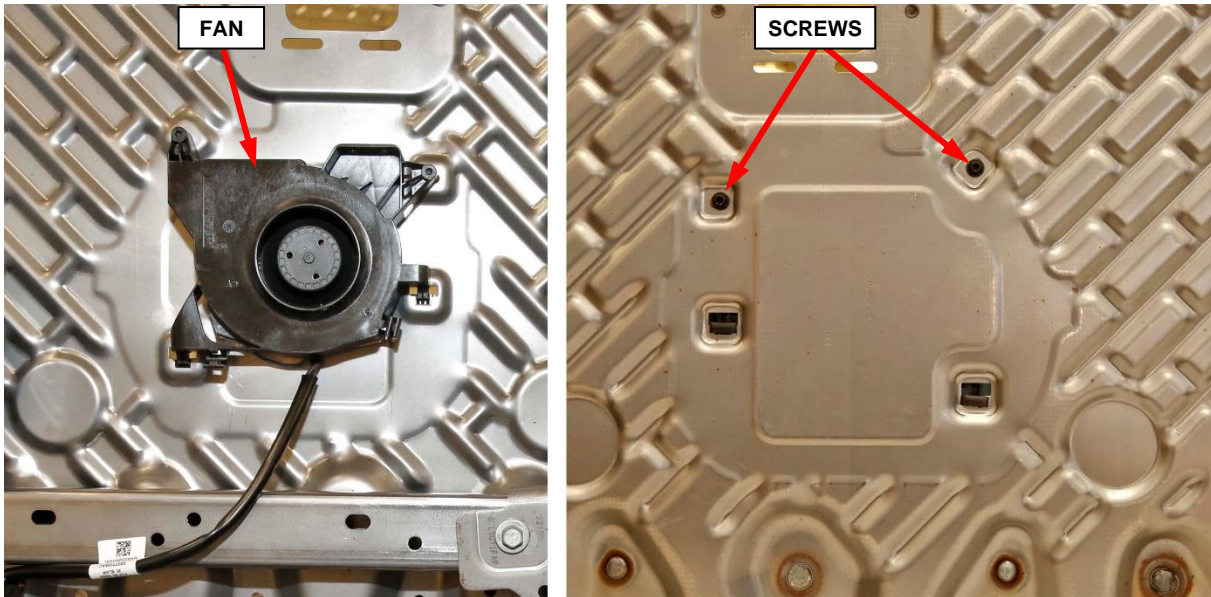

Figure 42 – Seat Fan
52. Remove the two screws securing the seat fan then remove the seat fan from the seat back frame (Figure 42).
54. Install the seat fan to the seat back frame then secure with the two screws (Figure 42).